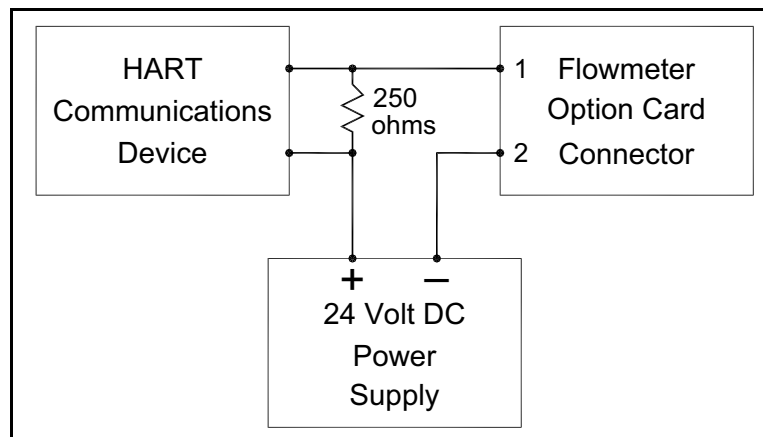

Figure 53: Option Card Wiring
3. Interconnect the HART option card and the HART device as shown in Figure 53.